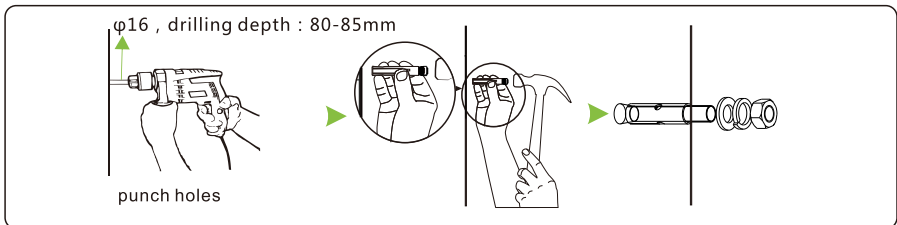

Figure 4.8 Drill holes on the wall
**Step 1** Drill holes on the wall, knock the expansion screw into the wall. Remove the flat washer, spring washer and nut of the expansion screw for spare, as shown in Figure 4.8.